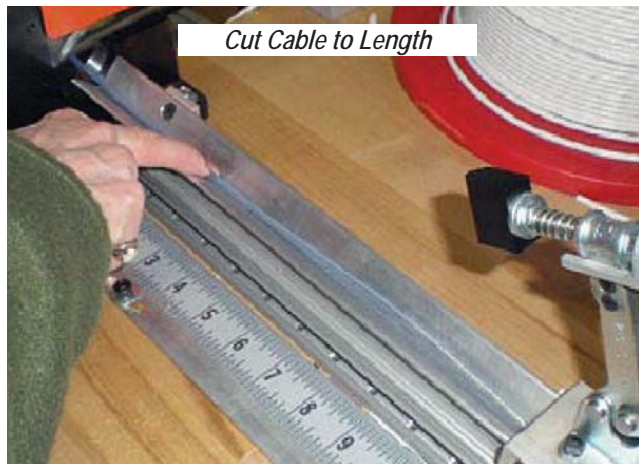

Figure 3
2. Using an appropriate cable cutter, cut the cable to the proper length. See Figure 3.